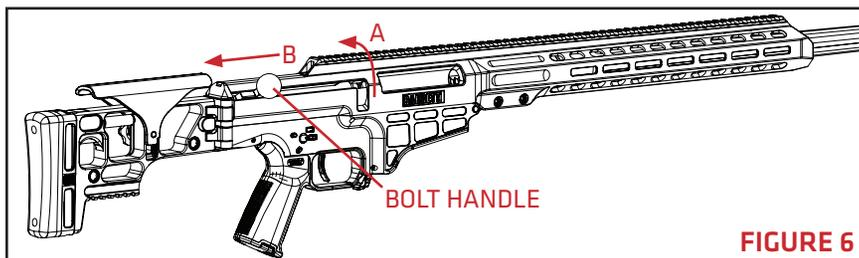

FIGURE 6
3. With the rifle pointed in a safe direction, lift the bolt handle (FIGURE 6-A) then pull it to the rear of the rifle (FIGURE 6-B).